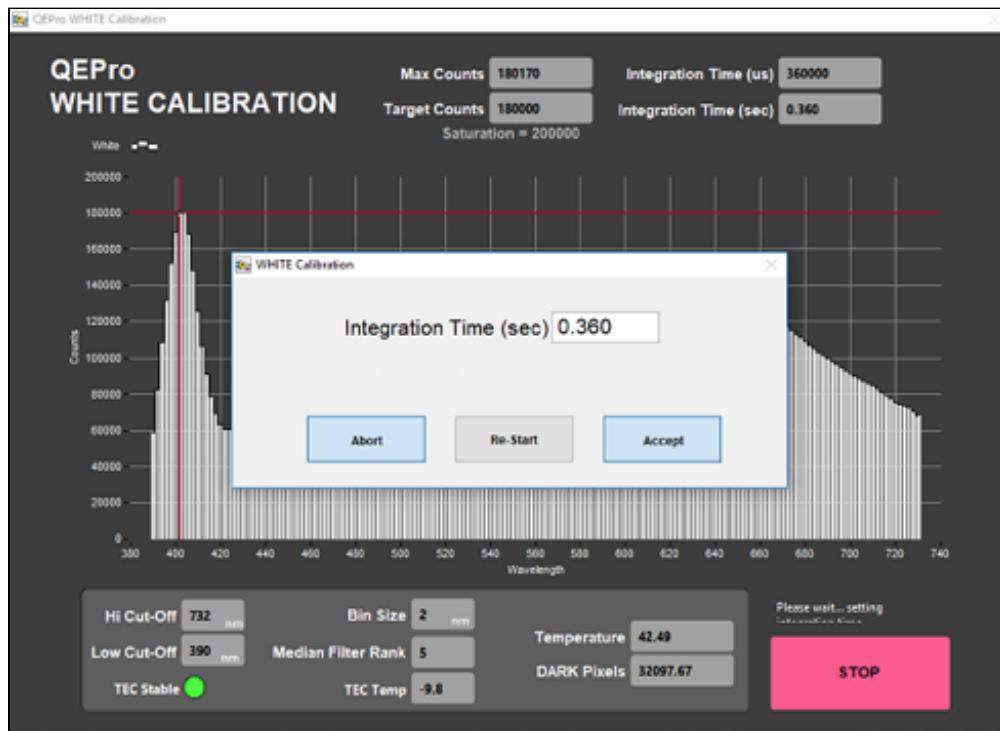

Figure 8. White Calibration Integration Time Display
3. When the white calibration is complete, the integration time will be displayed on the screen and the user will be prompted to **Accept, Re-Start, or Abort** the calibration (**Figure 8**).